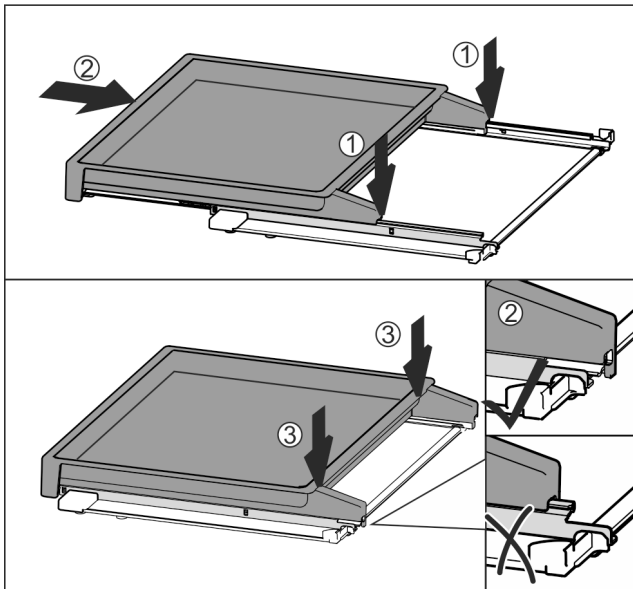

Fig. 51
- ▶ Place centrally on the rails Fig. 51 (1).
- ▶ Slide the pull-out board all the way in Fig. 51 (2).
- ▶ Press down at the back until it clicks into place Fig. 51 (3).